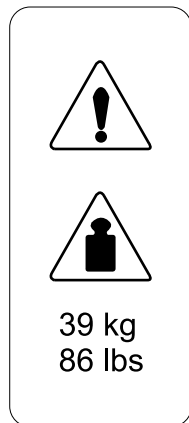

Figure 9. Weight label for the uninterruptible power supply
4. Weight label. See Figure 9.